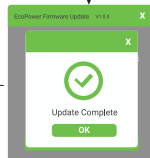

Figure 4: After the progress is displayed to 100%, if the verification is successful, the upgrade is successful, and this interface will pop up.
- \* When the external discharge is working, click the “Settings” button to enter the interface shown in Figure 4 to adjust the working current;